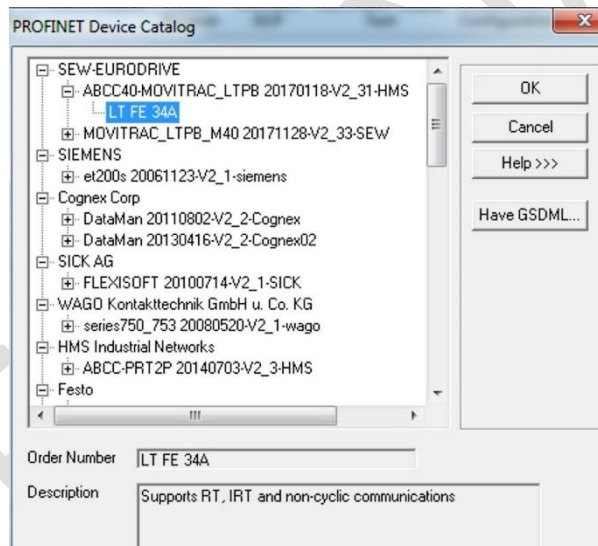

Figure 33: Select Drive from PROFINET Device Catalog
- d. From the PROFINET Device Catalog, select the model of the drive to be networked at the current node (Figure 33).
- g. Click OK (Figure 33) to complete the device addition.